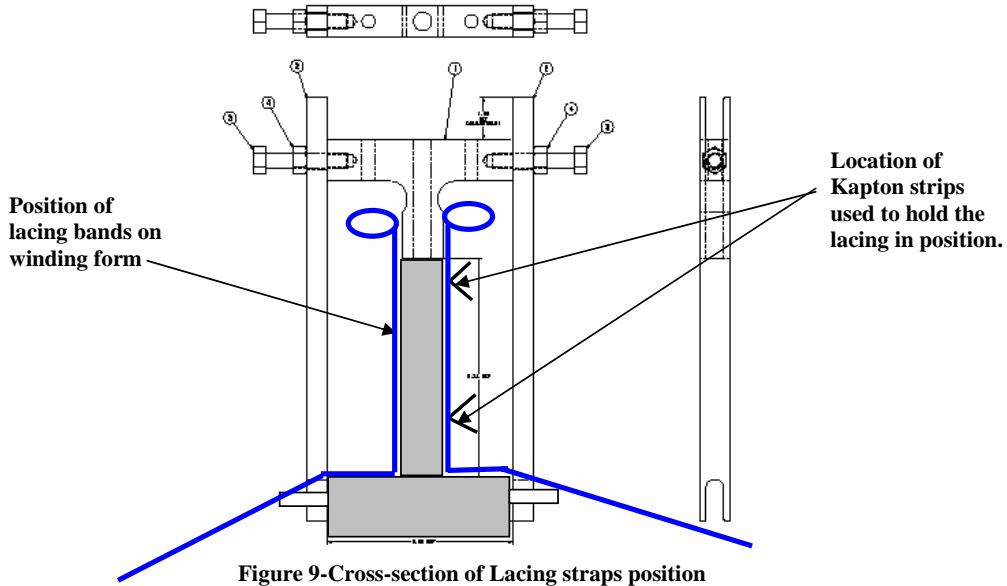

Figure 9-Cross-section of Lacing straps position
- 6.11.1 Place single bands of 0.004 inch thick x 0.5 inch wide x 18 inch long glass tape onto the groundwrap (sides “A” and “B”) in positions located either side of the winding clamps. [See Figure 8- Position of Lacing Straps and Figure 9-Cross-section of Lacing straps position]
- 6.11.3 The upper bands of lacing shall be rolled and stored with the Groundwrap insulation. Hold in position with non-conductive fasteners. On the lower side, a minimum of 6 inches should extend beyond the winding surface. This end cannot be rolled, but should remain loose. [See Figure 9-Cross-section of Lacing straps position]